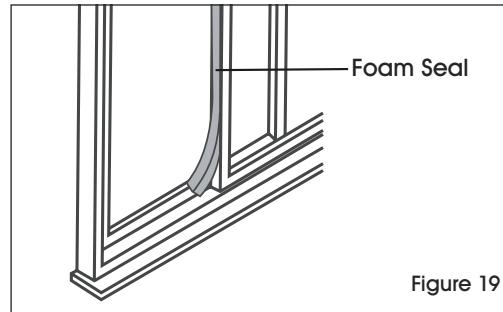

Figure 19
5. Cut the foam seal to an appropriate length and seal the open gap between the sliding sash and outer window sash. (See Figure 19)